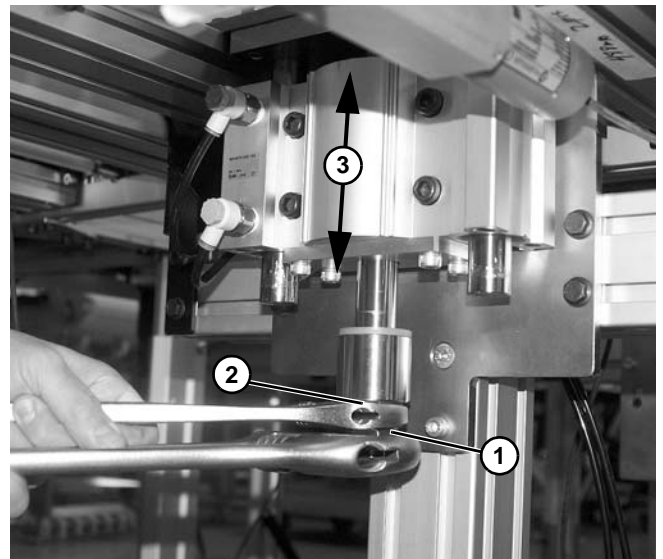

Figure 43
2. To adjust stroke, loosen jam nut (Figure 43, item 1) from large nut (Figure 43, item 2) on the bottom of cylinder shaft.
3. Turn large nut (Figure 43, item 2) clockwise or counterclockwise to raise or lower (Figure 43, item 3) pallet assembly as needed.